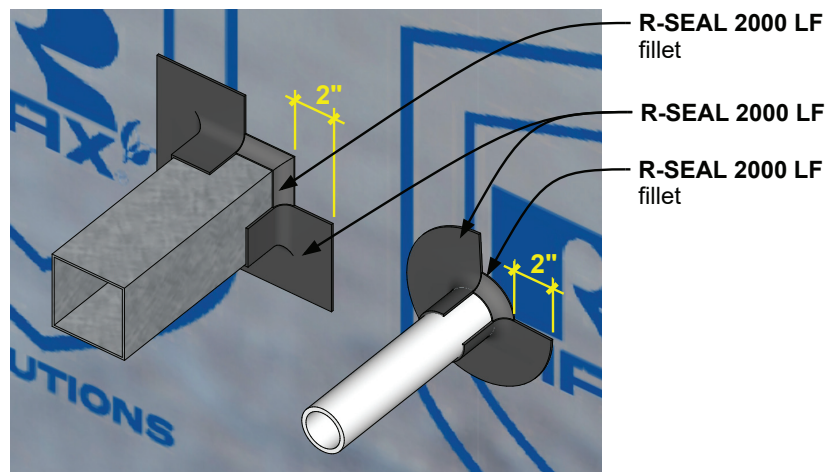

Figure 11
N. Throughwall Penetrations: Apply a bead of R-SEAL 2000 LF at penetration/insulation transition and tool to form a fillet. Apply and tool additional R-SEAL 2000 LF on penetration object and aluminum facer to ensure continuous flashing layer that extends a minimum of 2" onto each surface at a minimum 30mil wet gauge thickness. **Reference Figure 11.**